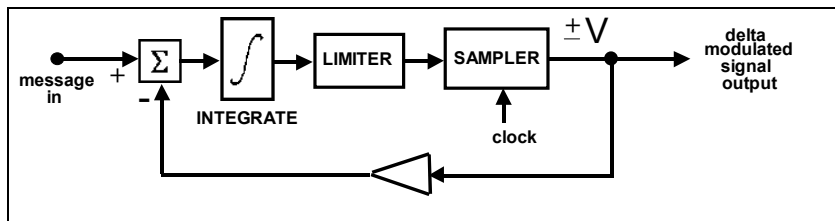
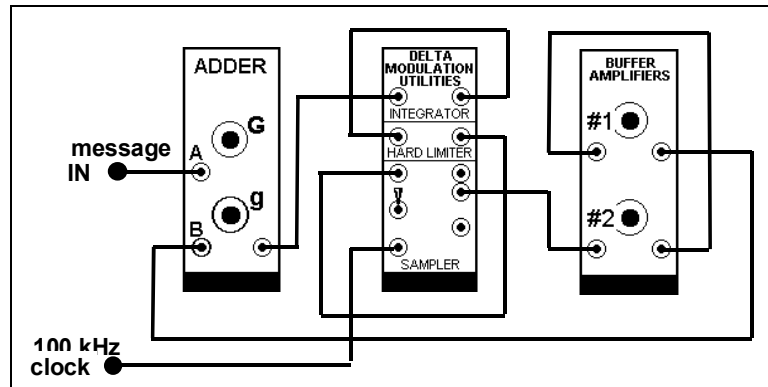

Figure 3: the delta-sigma modulator simplified
Figure 4: the delta-sigma modulator model
The two integrators at each *input* to the linear summer can be replaced by a single integrator at the summer *output*. This simplified arrangement is shown in Figure 3.
A model of the delta-sigma modulator block diagram of Figure 3 is shown in Figure 4.
- T3* patch together the complete delta-sigma modulator according to Figure 4.